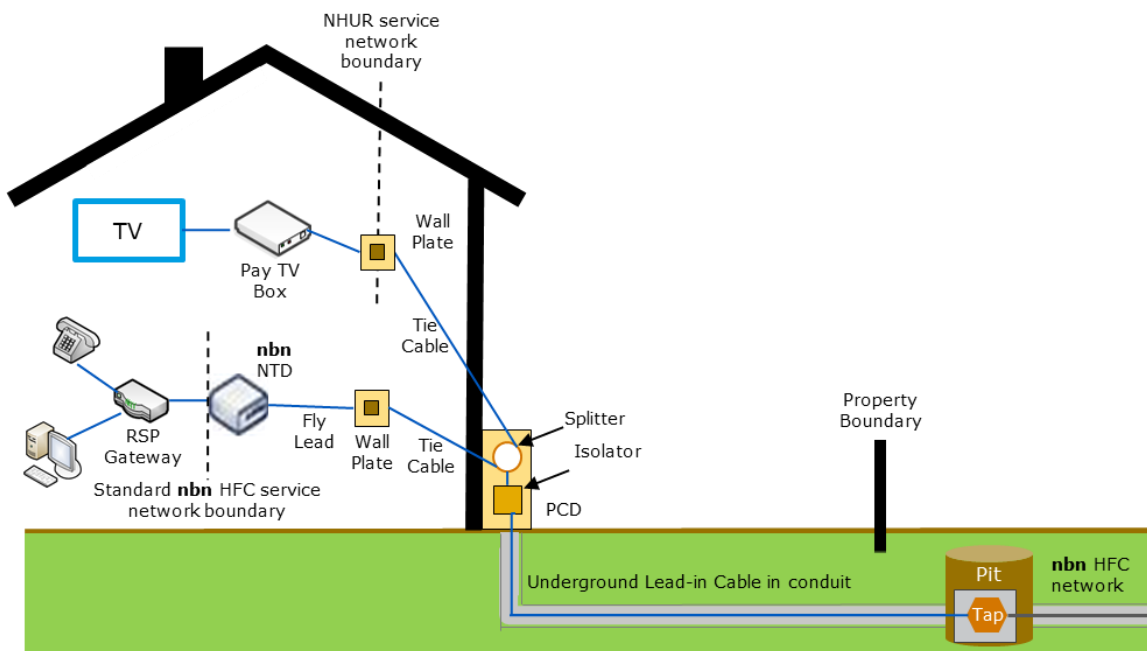

Figure 2 SDU nbn HFC installation – underground TAP with underground lead-in cable
- Underground lead-in as shown in Figure 2
Figure 2 displays the underground lead-in cable in conduit connected to the TAP within the pit.